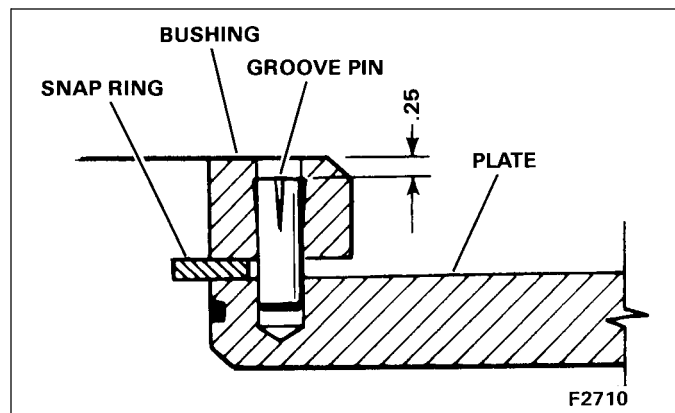

Figure 7-16. Bushing Installation
- A. Install O-ring (19) on plate (18). Position the plate in carrier (01) so that the hole in the plate will still be visible between pinions when pinions (07) are installed. Secure the plate with spiral ring (17).
- B. Install grooved pin (15) in bushing (16) (see Figure 7-16).
- C. Soak bushing (16) in dry ice and install it in carrier (01) with grooved pin (15) engaged with hole in plate (18).
- D. Turn the bushing and plate assembly so that the setscrew half holes in the bushing align with the setscrew half holes in the carrier (01).
- E. Install setscrews (26) and stake them by center punching.
- F. If a new bushing (16) or carrier (01) is installed, drill and tap two new setscrew holes 3/8-16UNC x 0.62 inch deep and 180° apart between pinions (07).
- H. Install spiral rings (06 and 08), spacers (05 and 09) and bearings (04 and 10) in their corresponding pinions (07).
- I. Install the pinion assemblies into planetary carrier (01).
- J. Soak pins (02) in dry ice and insert them in carrier (01) with the drilled and tapped end to the top of the carrier. The top of pin (02) should be flush with the top of the carrier in matching position.
- K. Measure the end play of pinions (07). It should be a minimum of 0.008 inch. If end play is less than minimum, consult the area P&H service representative.